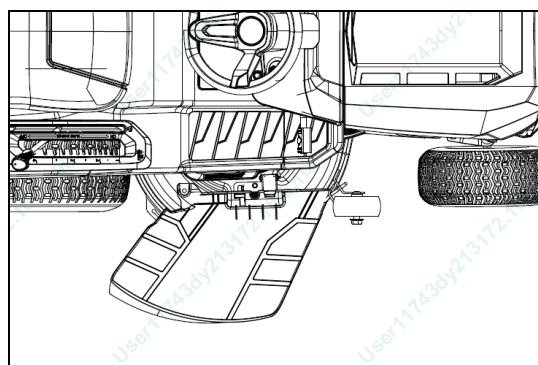

Fig. 8 E
1. Unlock the locking mechanism. Lift the side discharge chute out of the way in order to install the mulch cover. (Fig. 8 A / Fig. 8 B)
2. Insert the mulch cover rod through the hole in the wheel mounting bracket on the mowing deck and secure with the provided cotter pin. (Fig. 8 C)
4. Ensure that the bottom edge of the mulch cover is nested inside of the outer lip on the deck before lowering the side discharge chute. (Fig. 8 E)